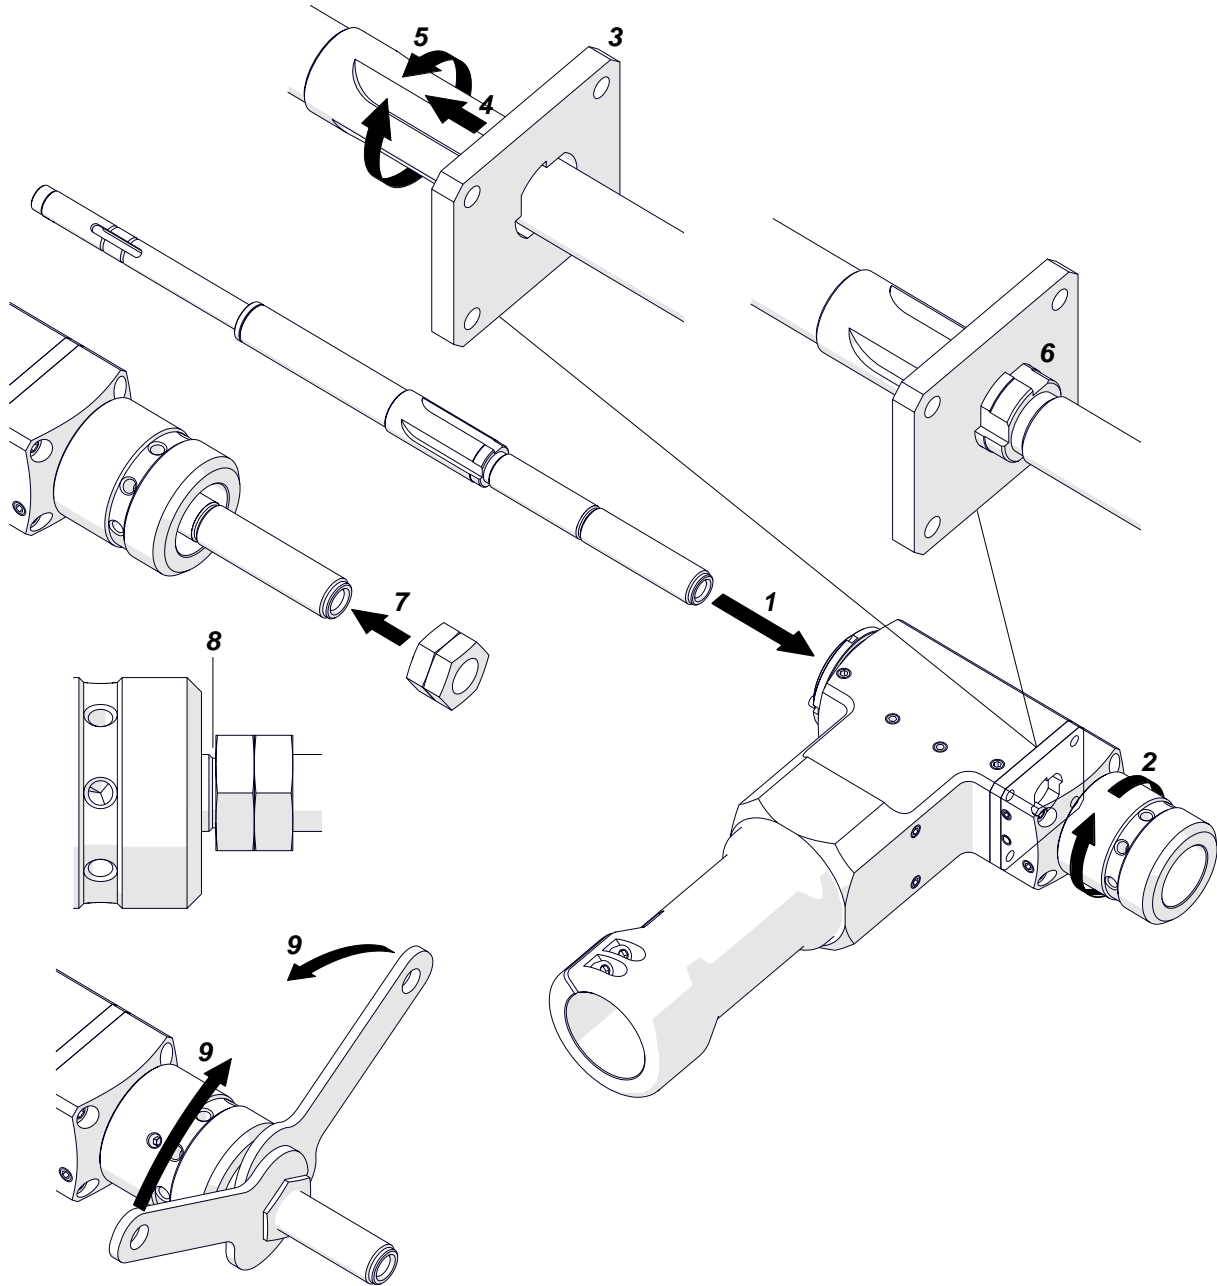

Fig. 9. Installing the mandrel
Put the small mandrel in (1, Fig. 9) and tighten it with the feed knob (2) until you feel resistance of the plate (3). Then, slightly loosen the mandrel (4) and rotate it by hand (5) to align the grooves with the bulges (6). Next, rotate the feed knob (2) to tighten the mandrel as much as possible. Then, put the nuts on the mandrel (7), set them at the groove (8), and then tighten with the 24 mm flat wrenches (9).